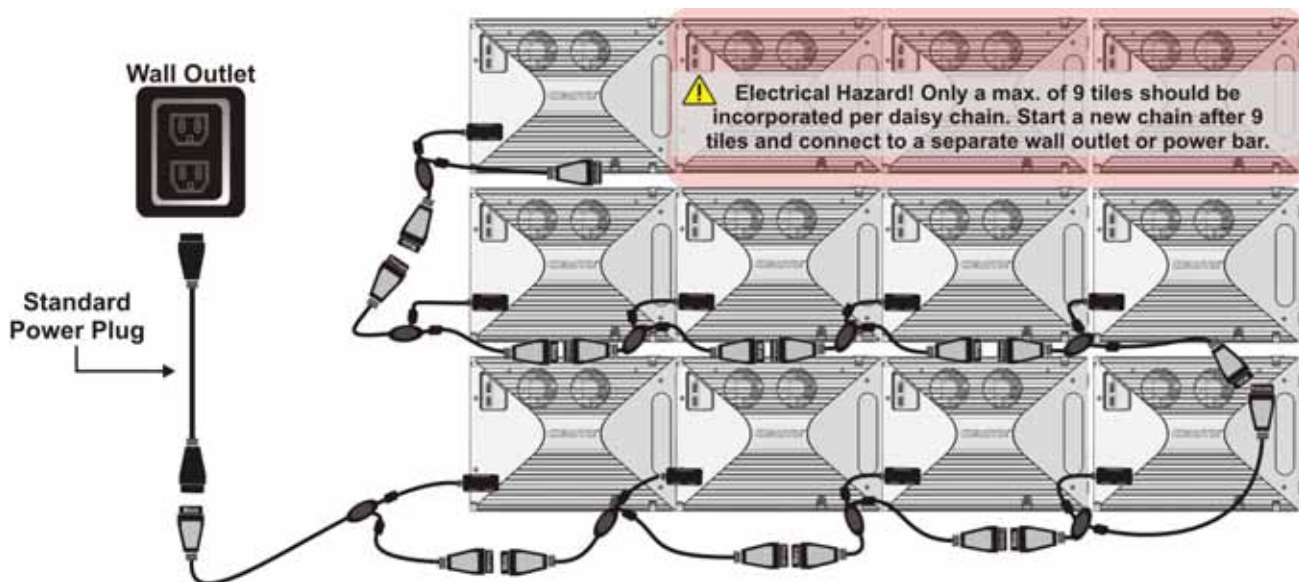

Figure 2-21 Connecting to Power Using Y-power Cords
2. Daisy chain the 'Y' power cords into each tile in the array and connect the standard power plug into an outlet or power bar (**Figure 2-21**).